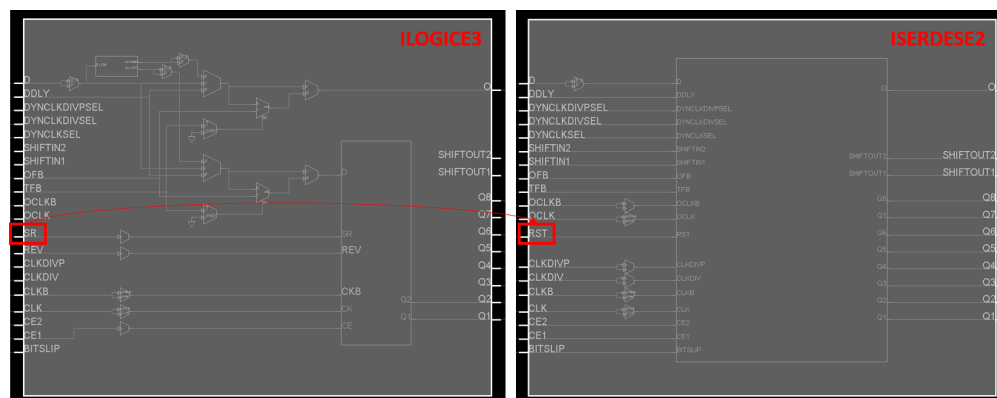

Figure 28: Pin renaming between an IDELAYE3 site (left) and ISERDESE2 alternate site (right)
- (b) The second hand edit is to add alternate type pin mappings. When a site is changed to one of its alternate types in Vivado, the site pins can be renamed. An example is shown in Figure 28 for an IDELAYE3 site that has been changed to the alternate type ISERDESE2. Notice how the “SR” site pin has been renamed to “RST” in the figure.
A placeholder “pinmaps” tag is included for all alternate types in the initial family info file, all you need to do is fill in the pin mappings. To determine the actual pin mappings, you need to open two instances of the Vivado GUI. For each site in the Family Info, load the default type in one Vivado instance, load the the alternate type in the other instance, and visibly check what pins are renamed in the alternate type (as demonstrated in Figure 28). You can be sure that pins are renamed if they connect to the same external tile wire. This process can be tedious, but there is currently no other solution. Table 2 shows the alternate types that require pin mappings for Artix7.